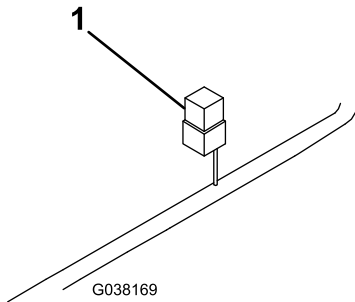

**Figure 12**
12. Mount the UTV-side, wire-harness plow connector to the left side of the top tube of the bumper using the control-harness mounting-bracket and 2 self-tapping bolts (Figure 12).
13. Mount the black and red power/ground connector to the control harness mounting bracket (Figure 12).